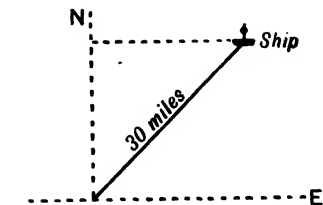

FIG. 94. DIAGRAM FOR EXAMPLE 1
1. A ship sails 30 miles in a N.E. direction, Fig. 94. How much farther north has it gone?